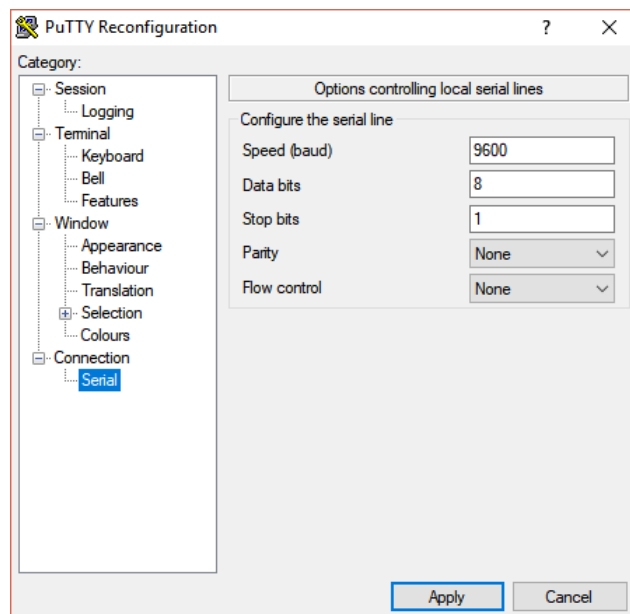

Figure 1. PuTTY settings
2. Select **Serial** as the connection type, **COM1** as the serial line and **9600** as the baudrate, 8 Data bits, No Parity and 1 stop bit, No Flow Control. (Shown in Figure 1)